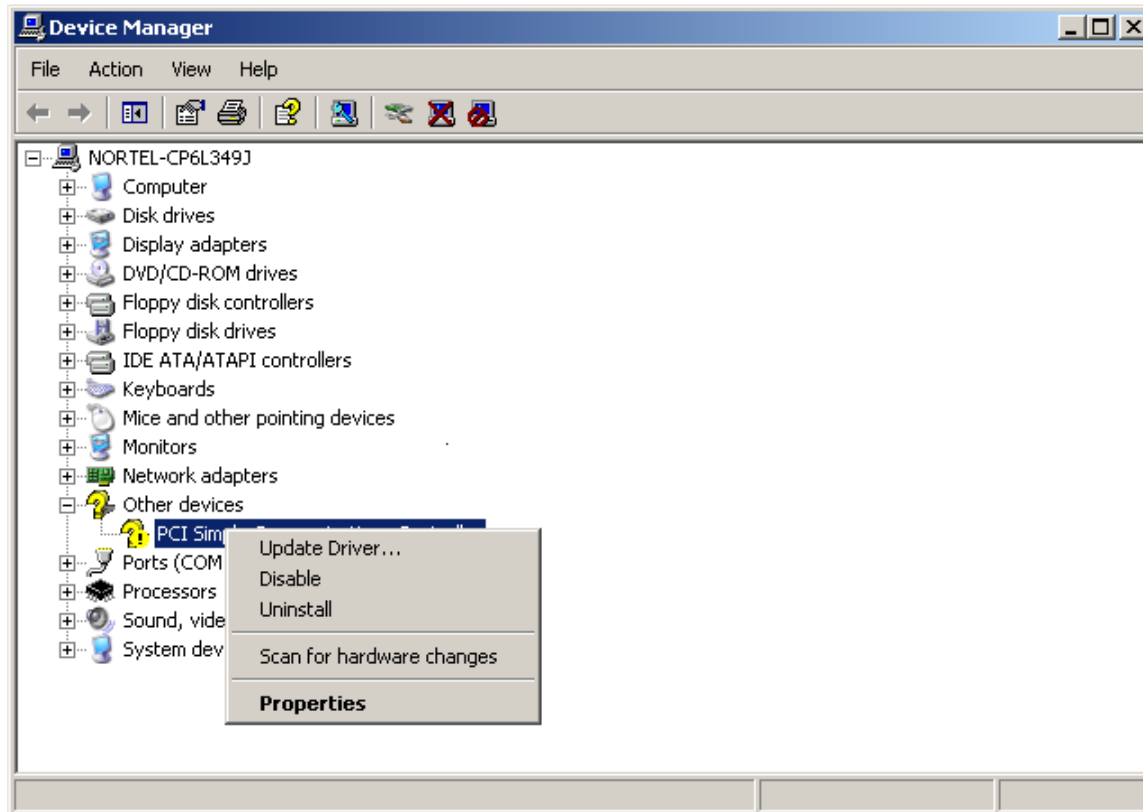

FIGURE 180. Properties of the PCI Simple Communications Controller
8. Click on the right mouse button to make the Properties window appear as shown in Figure 180.